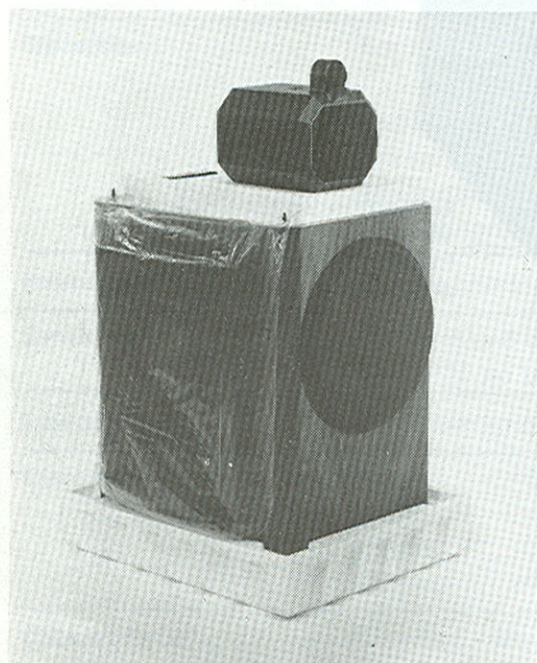

Fig. 3
2. Remove the top section of the polystyrene pack which contains the mid-frequency/high frequency head assembly and the accessory pack (Fig. 3).